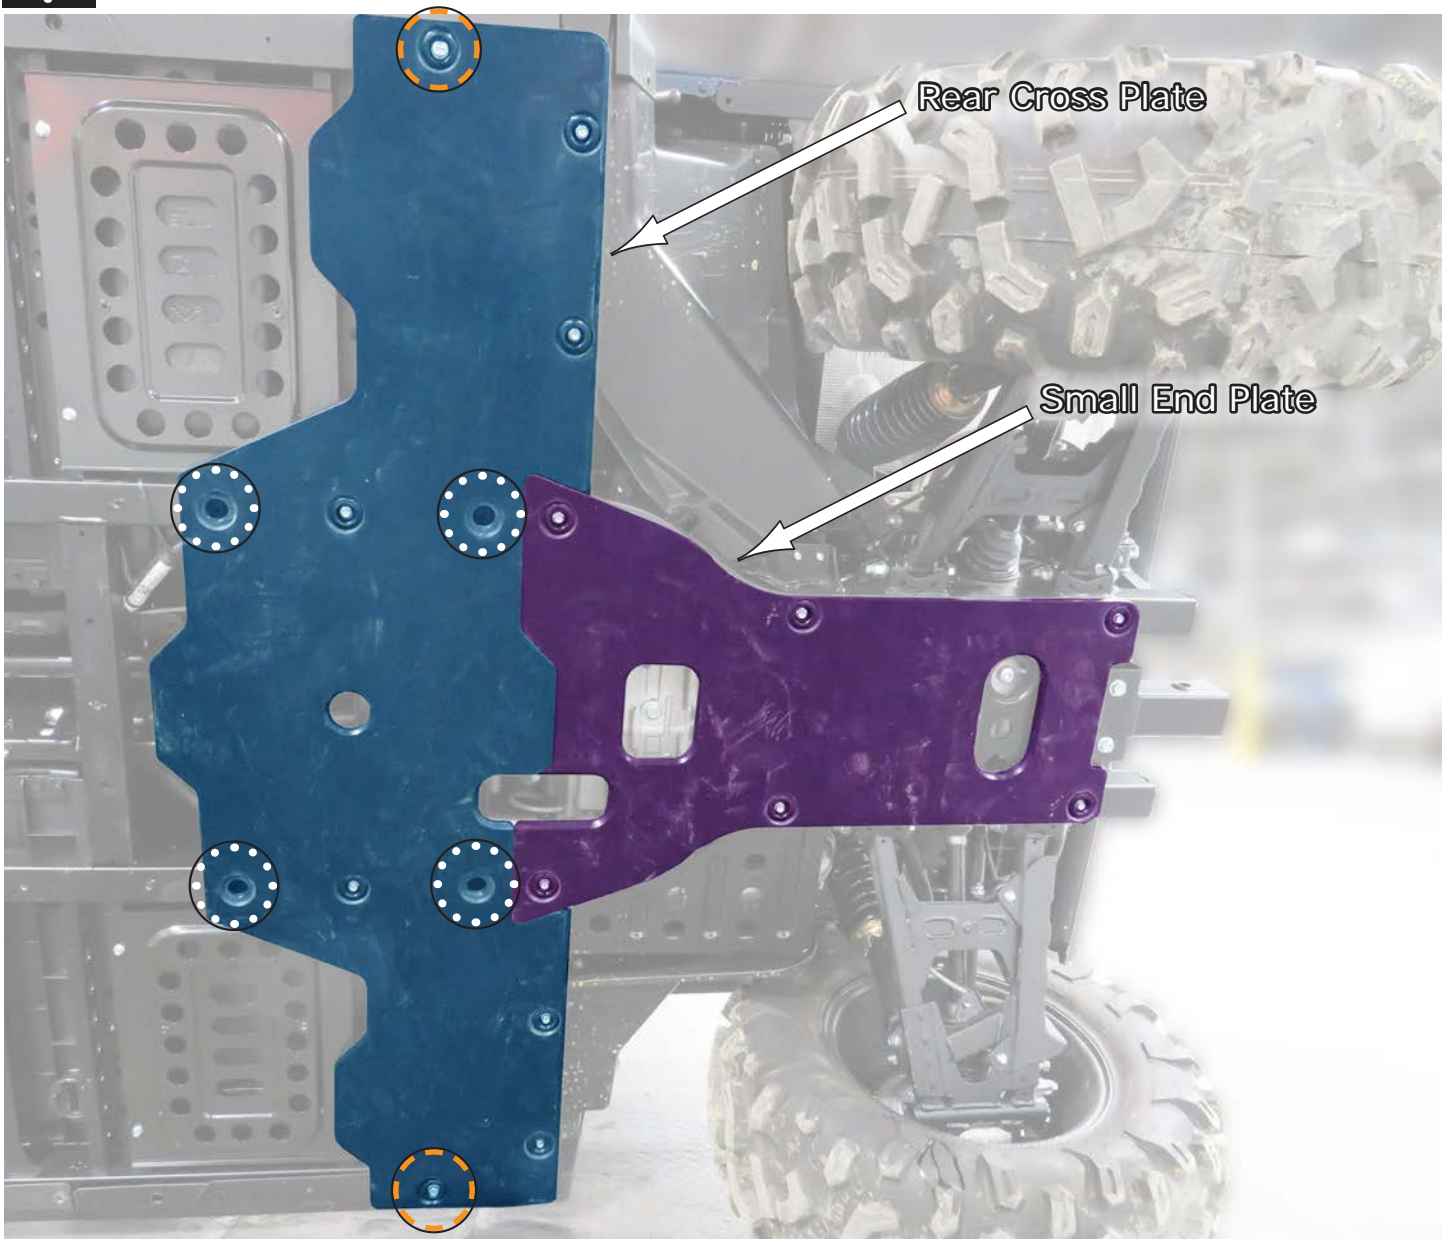

Fig.3
3. After the front plate is on, now you will **Install the Rear Two (2) Plates** next. First install the **Smaller End Plate**. This one will use all bolt holes as the front piece did. No drilling or different bolts used in this plate. See **Fig.3**. Then install the **Rear Cross Plate** also shown in **Fig.3**. This plate uses the standard **M6x20 Bolts** and **Bowl Washers**, but also has **Two (2) Hole Locations** that require an **M8x20 Self-Tap Bolt**, and **Four (4) Hole Locations** that will require **Drilling Thru** the frame first then using the **1/4"-20x1" Self-Tap**. **Fig.3** shows which of these holes get the Larger Bolts and Bowl Washers and which ones get drilled thru using the **1/4"-20x1" Self Tap Bolts** and **Bowl Washers**. All the rest are the standard **M6x20 Bolts** and **Bowl Washers**.